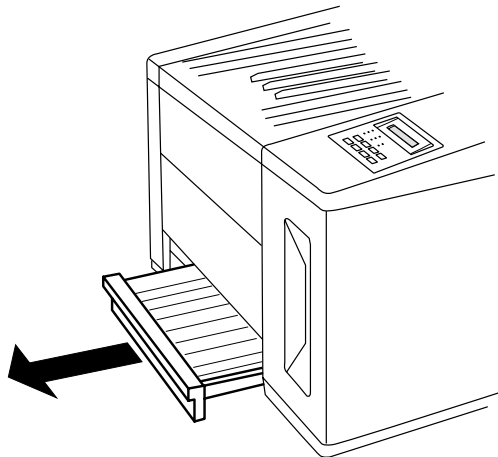

Fig. 8.4 Remove the Paper Cassette
1. Remove the paper cassette from the printer (fig. 8.4).